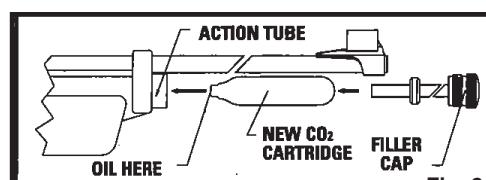

Fig. 2
- Insert the new CO2 cartridge into the airgun with the small neck of the CO2 cartridge into the action tube first. (Fig. 2)